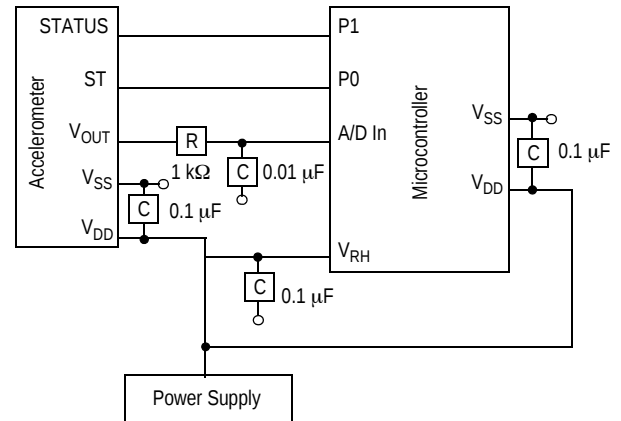

Figure 5. Recommended PCB Layout for Interfacing Accelerometer to Microcontroller
3. Place a ground plane beneath the accelerometer to reduce noise, the ground plane should be attached to all of the open ended terminals shown in Figure 5.